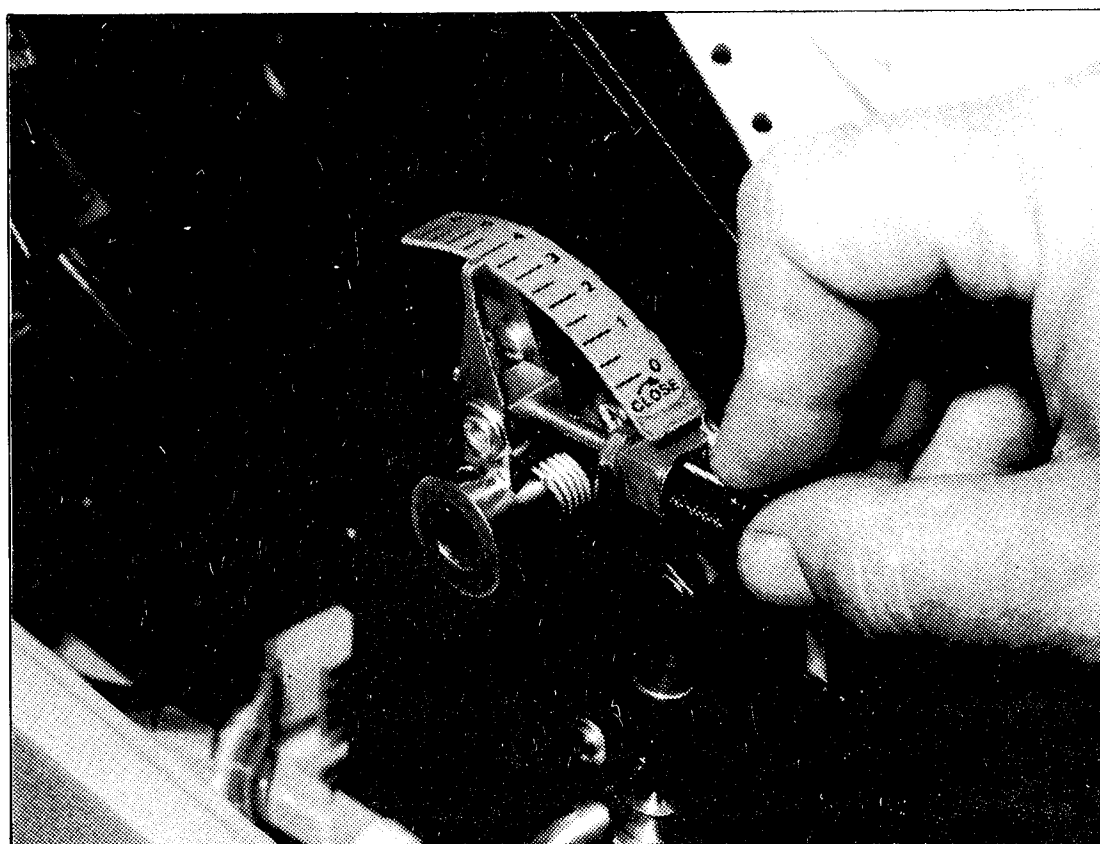

Figure 10. Forms Thickness Adjustment Knob
- Turn forms thickness adjustment knob (Figure 10) clockwise to move platen closer to print head.